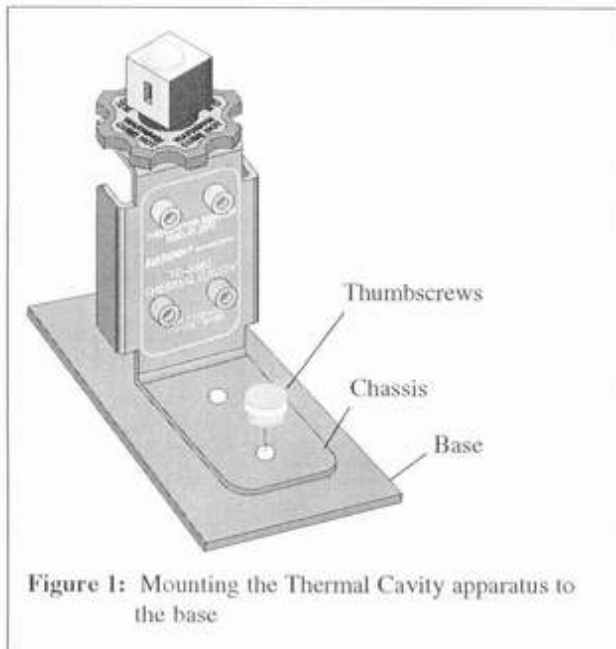

Figure 1: Mounting the Thermal Cavity apparatus to the base
1. Place the Thermal Cavity apparatus upright, such that the chassis (horizontal support piece) lies horizontal over the base. (see Figure 1).